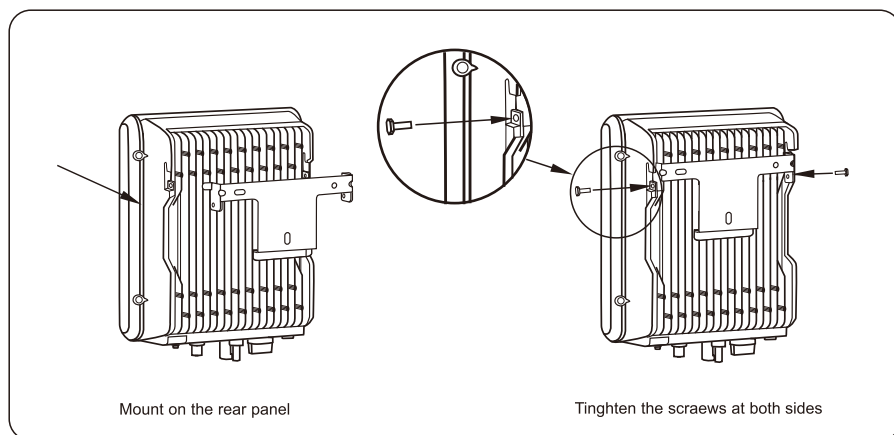

Figure 4.14 Securing the inverter
Step 2 Mount the inverter on the rear panel and keep them aligned with each other, as shown in Figure 4.14.
Step 3 Tighten the two hexagon screws at the both sides of the inverter to a torque of 1.2N.m and 3N.m respectively. Screw specs for 1K-3.6K and 3K-6K are M4 and M6 respectively, as shown in Figure 4.14.